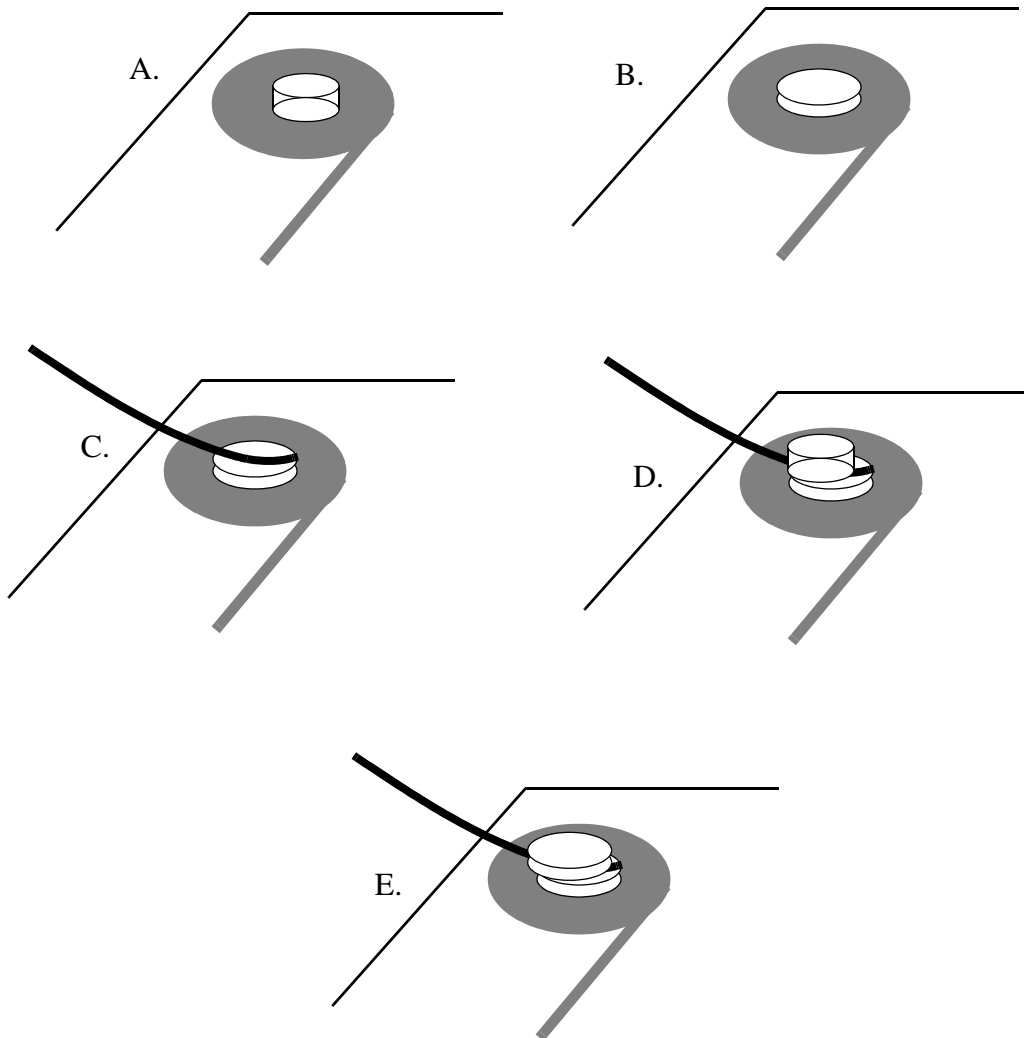

Figure 8. Making electrical contact to the superconductivity sample. See the text for details
5. Take the blunt, handle end of the tweezer and use it to mash the In disk onto the sample. This is what makes it stick and is the step at which the sample holder will slide in the vice if ratio of the mashing force to the clamping force is bigger than one. The mashed disk is shown in part B of Fig. 8.